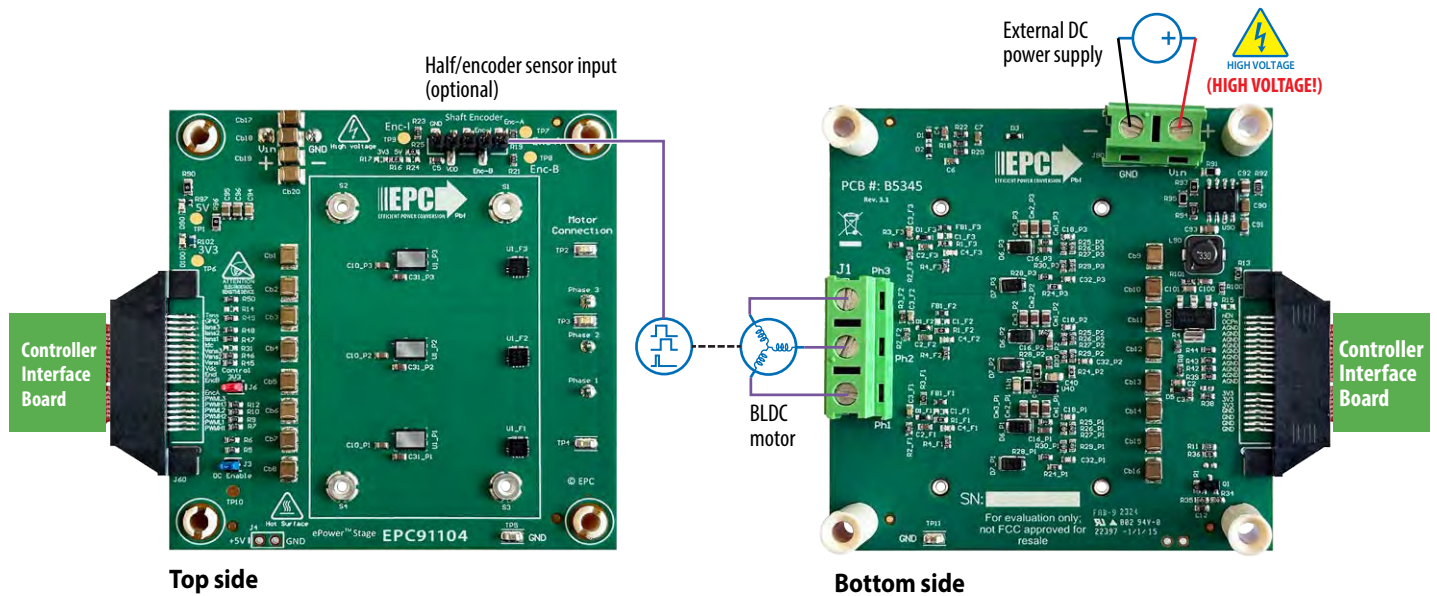

Figure 4: Connection diagram of the EPC91104 configured as a motor drive inverter
A 3-phase BLDC motor drive inverter is the primary application for which the EPC91104 board was designed for and can be used for sensor-less or shaft encoder sensor configurations. The motor drive controller options are given in Table 4, giving the user various mainstream choices that leverage existing resources to simplify and speed up development and evaluation. Figure 4 shows the simplicity of connecting a controller and motor to the EPC91104. **In the default configuration, the EPC91104 is paired a NEMA 34 size motor from Teknic M-3411P-LN-08D, with DC supply voltage of 48 V using sensor-less field orientated control with space vector pulse width modulation (SVPWM).**
1. Connect the correct motor, whose parameters are programmed into the controller, to the EPC91104 at connector J1 and the DC power supply at connector J90 (**Observe the correct polarity; there is no reverse polarity protection on board**) and shown in figure 4.